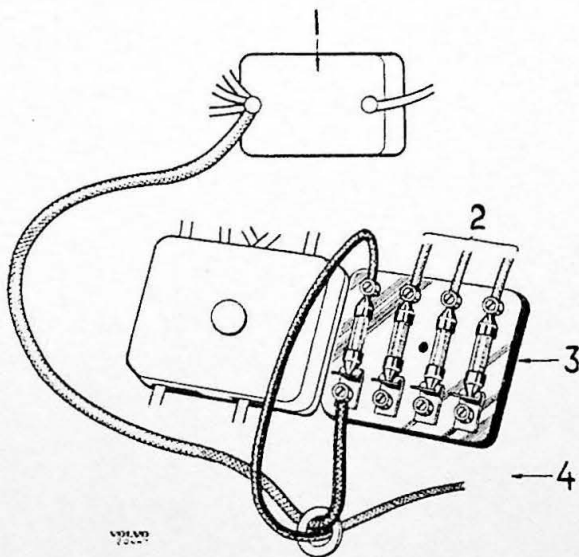

Fig. 24.
The spot light in PV 444 A and B as well as PV 445 A and B should not be connected to the existing fuse-box. If this is done, the cables might be overloaded. Connection to the ignition switch may not be carried out. An extra fuse-box (3, Fig. 24) is therefore fitted beside the normal fuse-box. Disconnect the positive lead from the accumulator. Connect a cable (2,5 mm2) between the ammeter (1) (dynamo side) and the extra fuse-box. Connect the spot light to this extra fuse-box by means of a cable (4) which is taken through the cowl and fitted with a suitable rubber sheath. Fit an 8 amp. fuse and connect the accumulator cable.